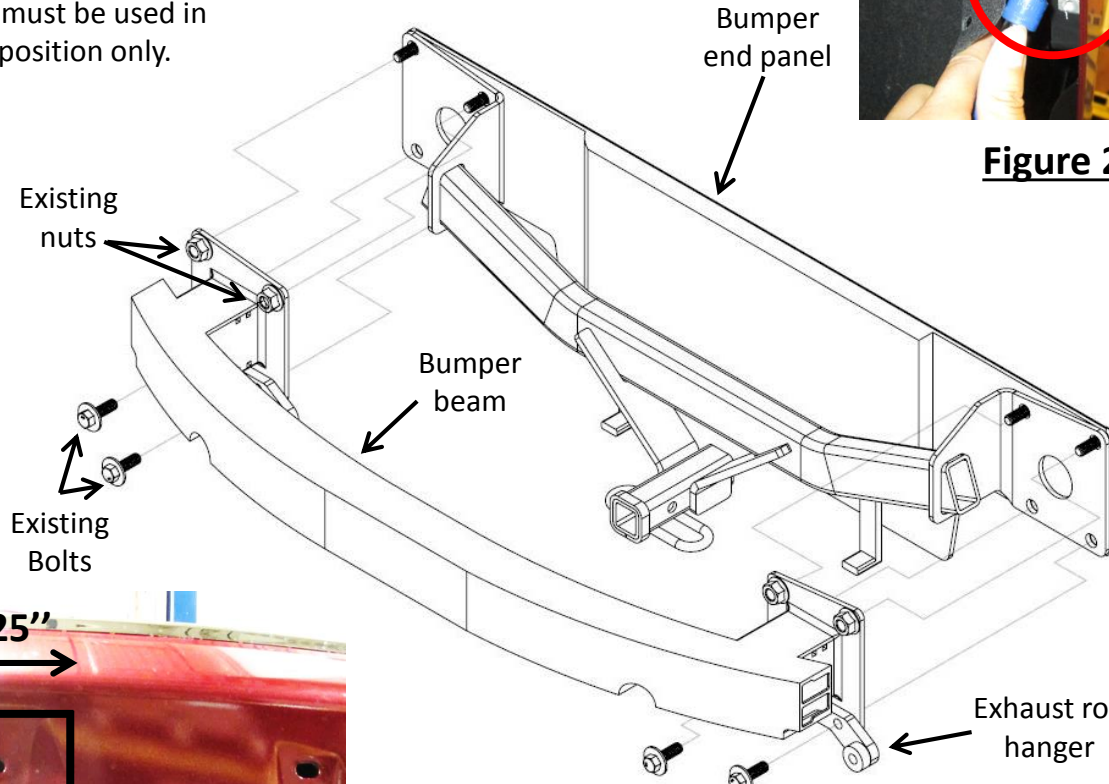

Figure 1
- Hitch installation** – raise the hitch and align top 2 holes of the hitch to the studs on the bumper end panel. Raise the bumper beam and exhaust rod hangers to sandwich the hitch, see **Figure 1**. Reuse the flange nuts and bolts to loosely fasten them.